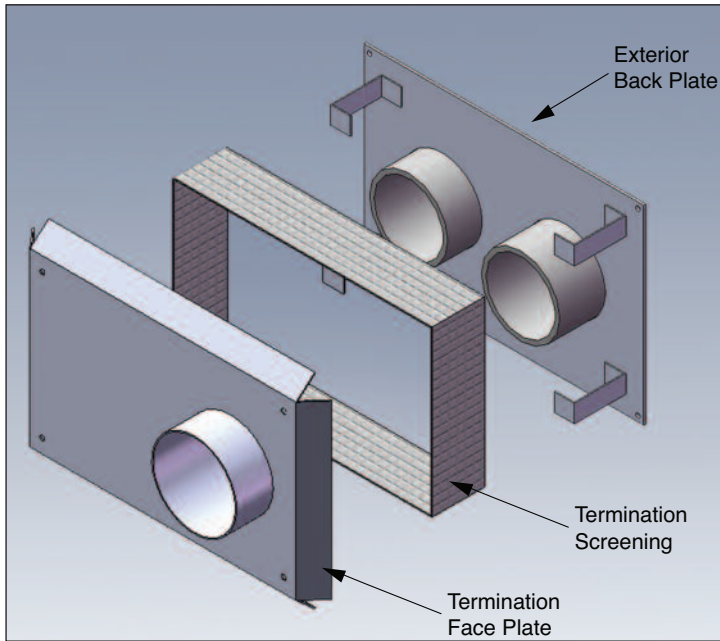

Fig. 4: Exterior Assembly of Termination
- Install the termination screening onto the exterior back plate as shown in Figure 4. Using a slight twisting motion install the termination faceplate with the vent pipe inserted into the vent coupling.